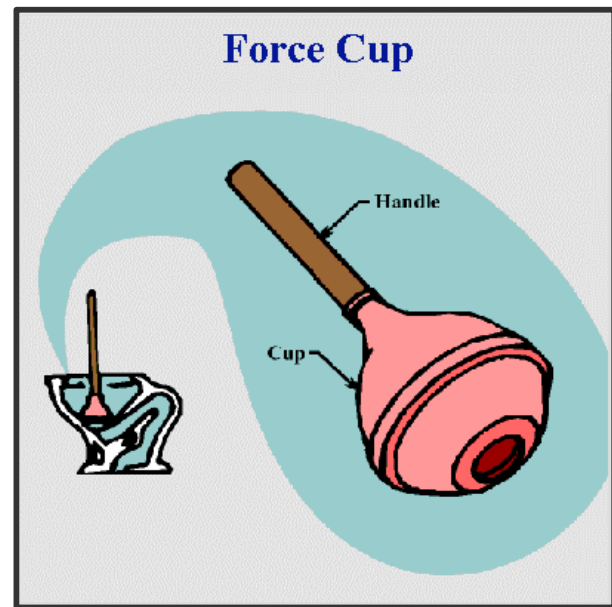

Figure 2. Force Cup
- **Force Cup Plungers.** A force cup plunger is similar to a vacuum plunger; however, the major difference is where the instrument will be used. Force cups are designed with a more spherical cup and a smaller opening. This design is more suited for water closet bowls and wall-hung urinals that have integral traps with curved openings. (Figure 2).